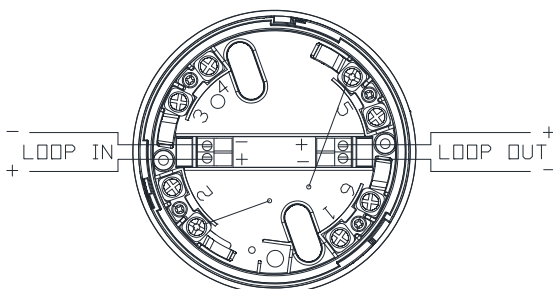

Fig. 1: 683 audio/visual alarm base wiring connections
2. Connect the conductors to the base terminals as shown in Fig. 1.